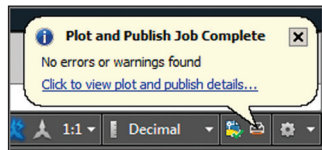

FIGURE 14.18 Plot notification window
7. Click the Plot icon in the upper-left corner of the plot preview. The plot is immediately sent to the hypothetical HP DesignJet T920 output device. If this device were really attached to your computer, it would start plotting within seconds. Once the plot has been sent, a notification window appears in the lower-right corner of the user interface (see Figure 14.18). The plot is complete; click the close box in the notification window.